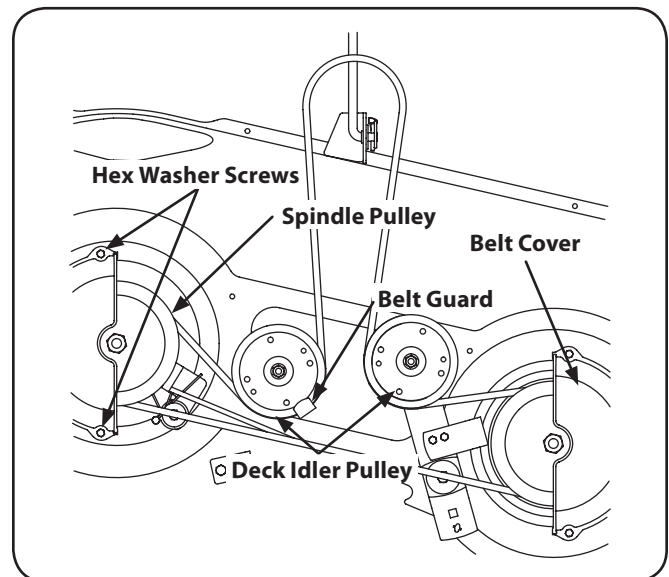

Figure 7-7
2. Remove the belt covers by removing the hex washer screws that fasten them to the deck. See Fig. 7-7.
4. Carefully remove the deck belt from around the two spindle pulleys and the two deck idler pulleys. See Fig. 7-7.
5. To place the new belt, begin by routing the belt around the two outer spindle pulleys as shown in Fig. 7-7.
6. Then route the belt around the two deck idler pulleys as shown in Fig. 7-7.